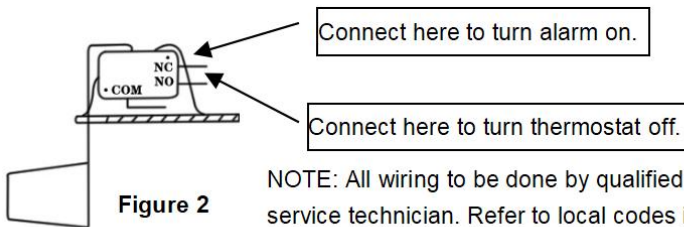

Figure 2
3. Safety switch: The safety overflow switch should be connected to a class II low voltage circuit. To control a thermostatic circuit the COM and NO connections from the safety switch are to be wired in series with the low voltage thermostat circuit to shut down the heating/AC circuit. The COM and NC switch contacts may be used to actuate a low voltage alarm circuit (connected in series) if the heating/cooling system cannot be disrupted. The safety switch comes from the factory with leads connected to the COM and NO switch terminals. Typical hook-up of “NC” circuits would be (Figures 2 & 3),